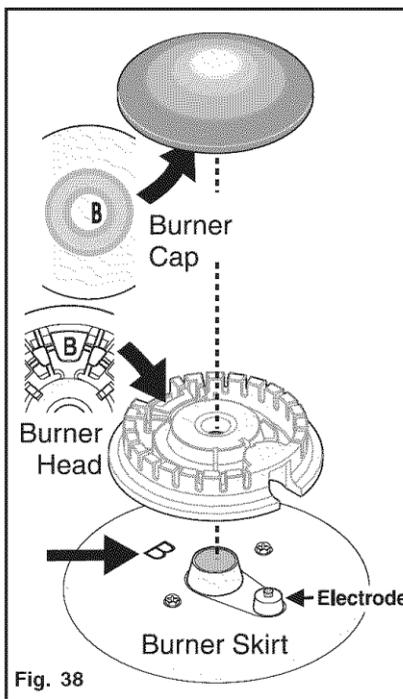

Fig. 38
4. To replace Burner Heads & Caps, match the letters located under center of Burner Caps with the letters located inside Burner Heads (Fig. 38).
5. Match the letters stamped on Burner Skirts with Burner Heads and Burner Caps (See Fig. 38). Replace the Burner Heads and Caps on cooktop (See Fig. 39). Carefully align the Electrodes into slot or hole of each Burner Head (Fig. 40). Note: The Burner Heads should sit flat on Cooktop Burner Skirts.